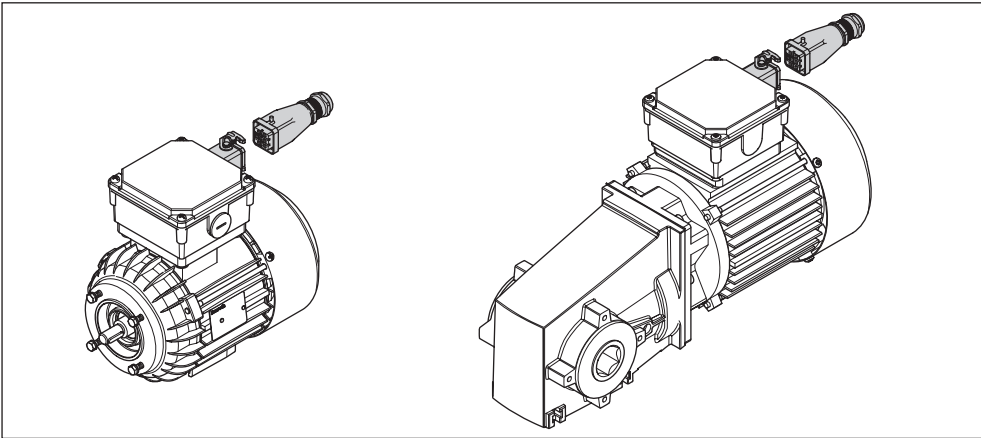

Fig. 45: Optional motor connection with plug (AT = S)
- Optional motor connection with plug (AT = S), see Fig. 45 on page 57. Observe the pre-fuse!